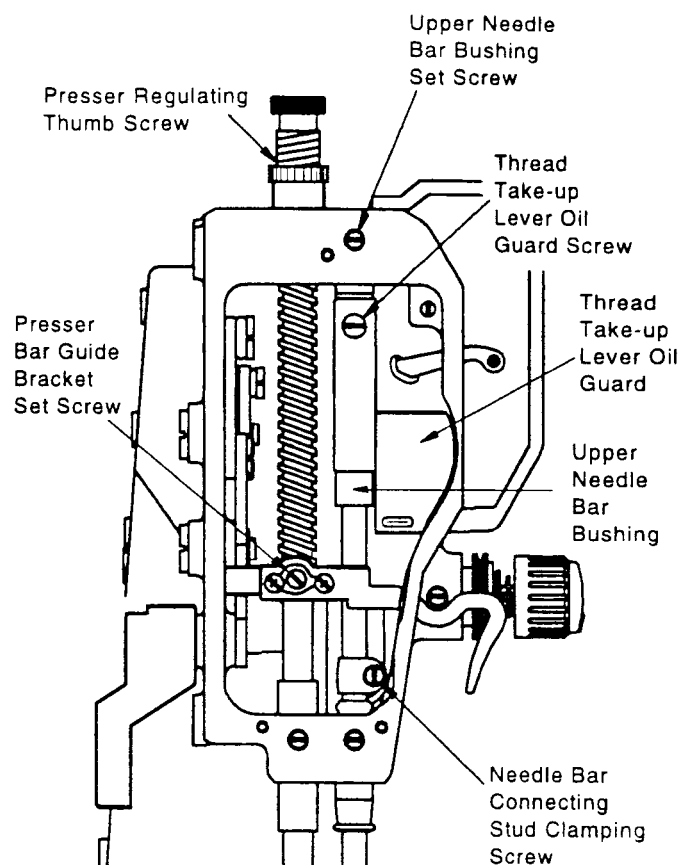

Fig.21
3. Loosen presser bar guide bracket set screw just enough to move the presser bar. Slide presser bar up through presser bar bushing and out of machine. (Fig. 21)
16. Replace presser regulating thumb screw. (Fig. 21, page 16)